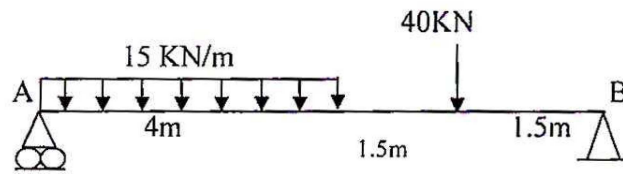

Fig. 6
4. (a) Draw SFD and BMD for the beam loaded as shown in Fig. 6. [9]